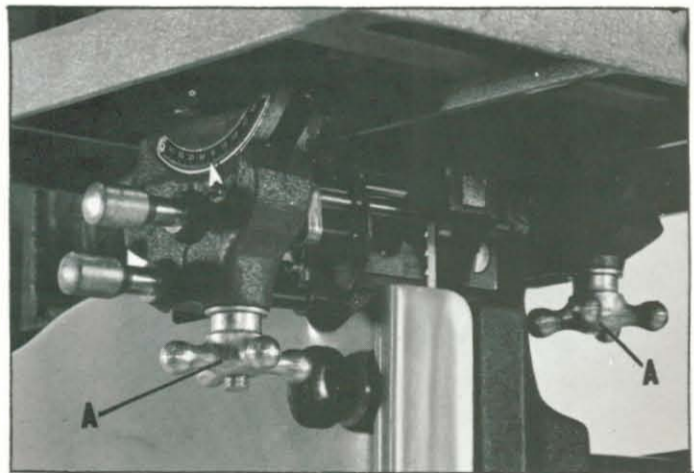

Fig. 14
The table on your band saw can be tilted 45 degrees to the right and 10 degrees to the left. To tilt the table, loosen the two star wheels (A) Fig. 14, tilt the table to the desired angle and tighten the two star wheels (A).